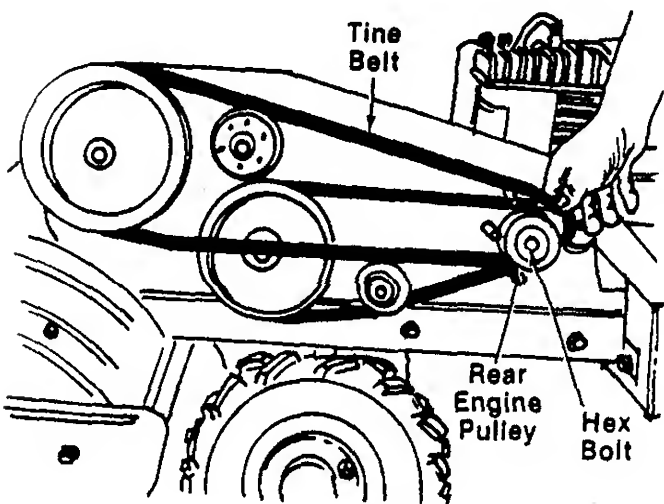

FIGURE 21.
4. Loosen, but do not remove, the hex bolt on the rear engine pulley. See figure 21.
2. Remove the hex bolt, lock washer and flat washer from the rear engine pulley. See figure 21. Slip the rear engine pulley off the engine.